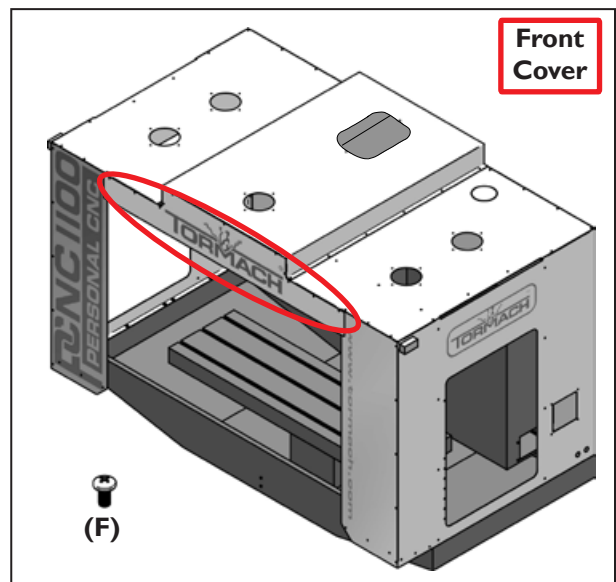

Figure 12
32. Place the Front Cover (E.18) onto the front of the enclosure assembly (see **Figure 12**). Loosely fasten with (F) screws along the side and top edges of the front panel.